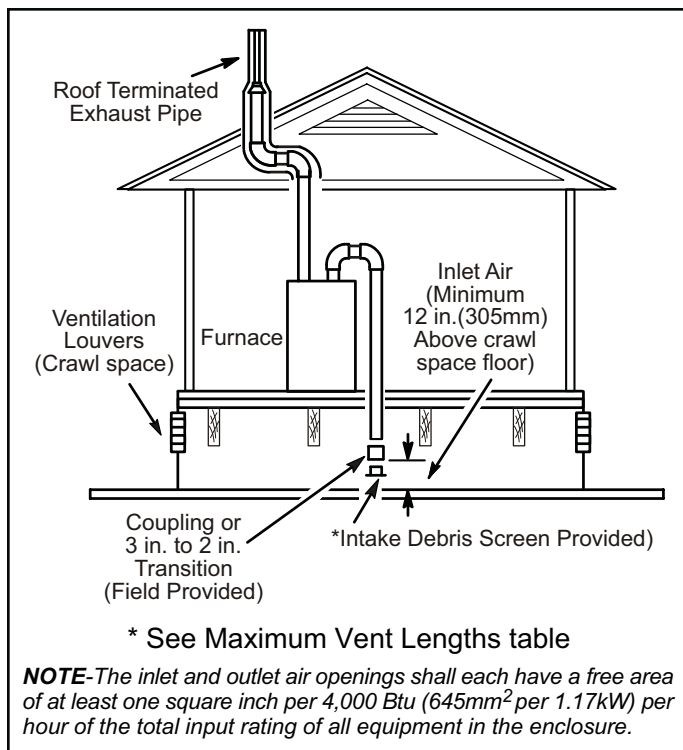

Figure 32. (Inlet Air from Ventilated Crawlspace and Outlet Air to Outside)
2. If intake air is drawn from a ventilated attic (Figure 31) or ventilated crawlspace (Figure 32) the exhaust vent length must not exceed those listed in Table 5C. If 3" diameter pipe is used, reduce to 2" diameter pipe at the termination point to accommodate the debris screen.